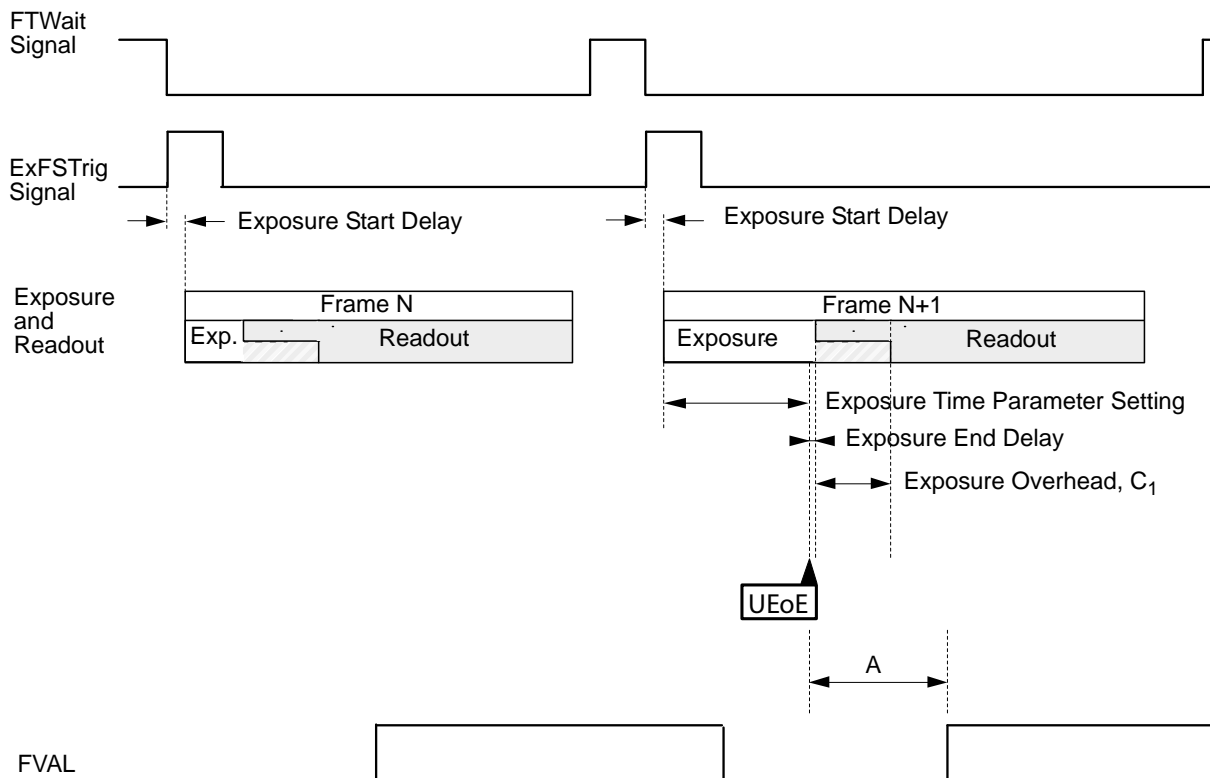
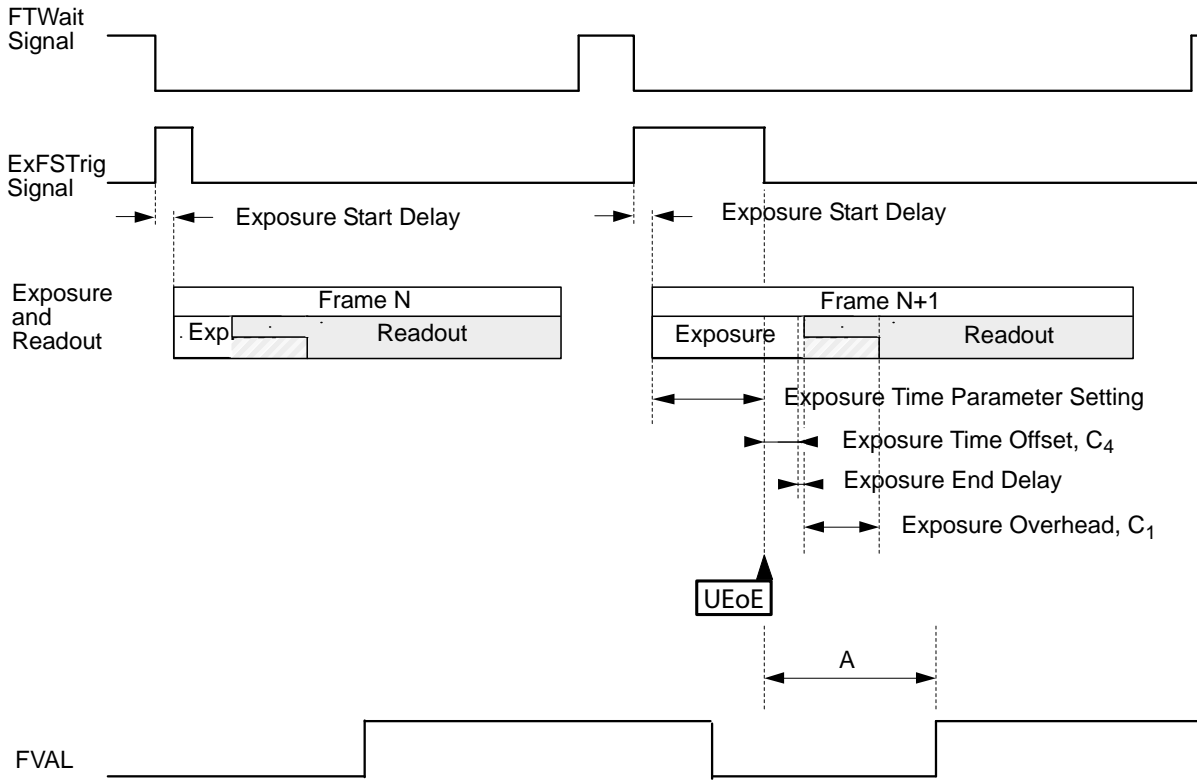

Fig. 21: Timing Chart for Frame Acquisition Using the Timed Exposure Mode
Fig. 22: Timing Chart for Frame Acquisition Using the Trigger Width Exposure Mode
The exposure start and exposure end delays, also called "base delays", are given in Table 7: See also the timing charts of Fig. 21 and Fig. 22.
The process of frame acquisition involves several time periods that are listed below. The time periods are also shown in their timing contexts in Fig. 21 (timed acquisition mode) and Fig. 22 (trigger width acquisition mode).
Note that, if the debouncer feature is used, the debouncer setting for the input line must be added to the exposure start delay shown in Fig. 21 and Fig. 22 to determine the total start delay.
The timing charts below assume that exposure is triggered by an externally generated frame start trigger (ExFSTrig) signal with rising edge activation. The charts illustrate operation in timed acquisition mode (Fig. 21) and trigger width acquisition mode (Fig. 22).
The instants marked "end of exposure" in the timing charts in the *Basler ace and beat Camera Link Information for Frame Grabber Designers* (AW000990), correspond to the instants labelled "UEoE" ("user end of exposure") in Fig. 21 and Fig. 22 of this document.
- In timed exposure mode, the instant occurs when the sensor actually ends exposure (as set by the exposure time parameter value; see Fig. 21).
- In trigger width exposure mode, the instant occurs when the ExFSTrig signal goes low (if the signal is not inverted; see Fig. 22). Accordingly, in this case the instant occurs when only part of the total exposure for an acquisition has elapsed.